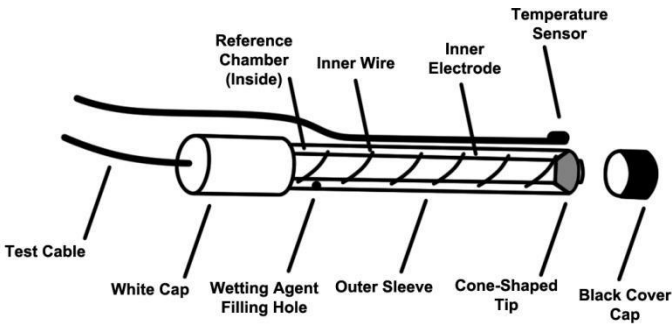

Figure 5: Electrode Overview
2. Insert the syringe (or flip spout) into the Fill Hole on the outer sleeve (see p.18, fig. 5), and add a small amount of Wetting Agent in the reference chamber.
5. Reassemble electrode for storage or before using again. (Refer to Figure 5)